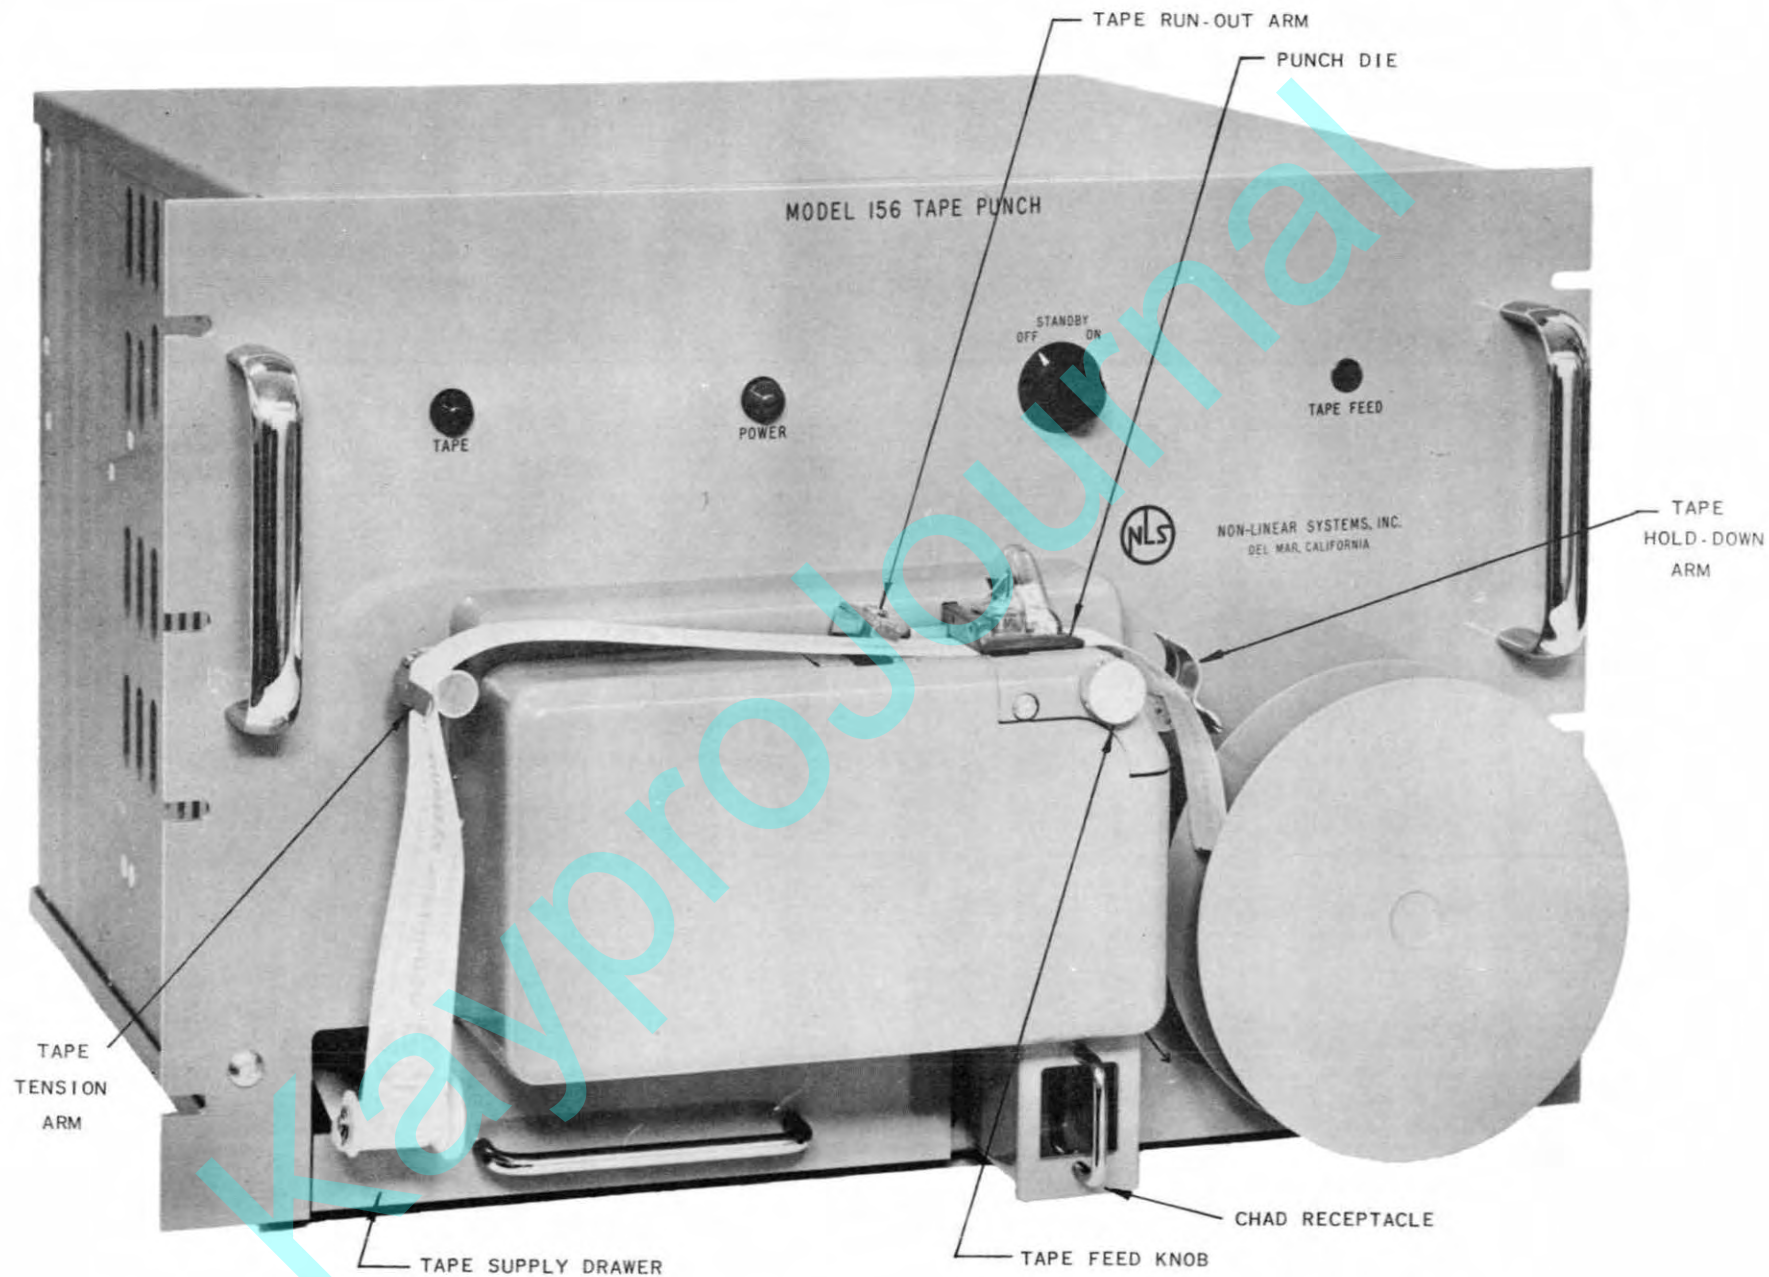

FIGURE 14
3. Move the tape Hold-Down Arm away from the sprocket, which raises the Tape Run-out Arm as shown in Figure 14. Feed the tape through the guide on the Tape Tension arm, and under the Tape Run-out Arm. Slide the tape under the Punch Die, taking care that the tape is all the way to the rear and straight. Close the Tape Hold-Down Arm.
5. Be sure that the Chad Receptacle is in place (see Figure 14). Empty the receptacle, if necessary.